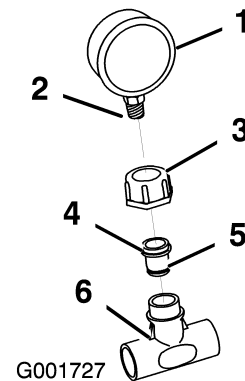

Figure 11
wrench to screw the reducer assembly to the pressure gauge (Figure 11).
11. Install the pressure gauge assembly to the plastic tee (Figure 11).